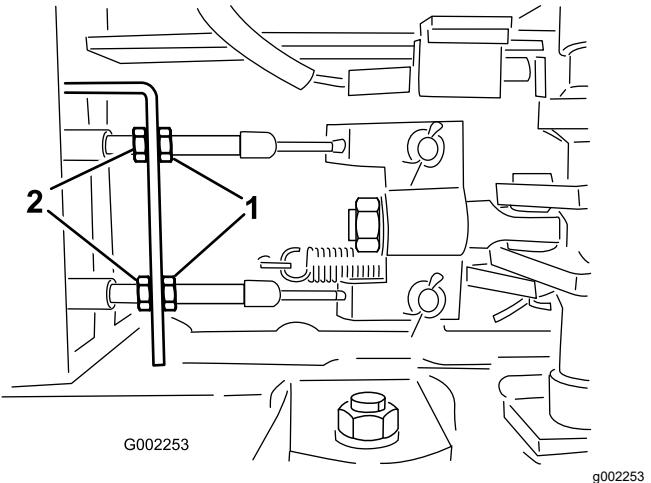

Figure 100
5. Loosen the front jam nuts on the brake cables under the front end of the sprayer (Figure 100).
6. Tighten the rear jam nuts equally until the brake pedal moves between 1 to 2 cm (1/2 to 1 inch) before you feel resistance (Figure 100).